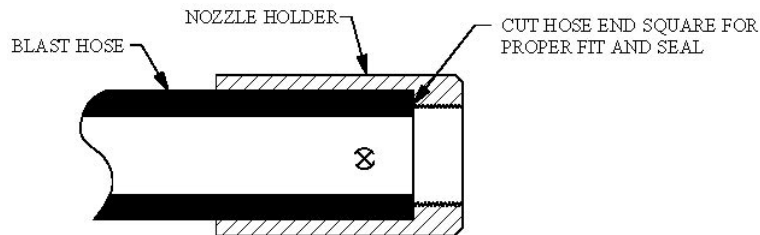

Figure 8.3 – Hose End Fit up
- 8.8. **Blast/Air Hose Coupling Gaskets:** All air hose, blast hose, and threaded couplings have gaskets that seal the connection. To reduce loss of air pressure and/or premature abrasive wear replace these gaskets when leaks are found. Inspect the couplings daily for leaks and wear. Replace gaskets when visible wear or leaks are found. When installing or replacing hose couplings cut the hose end square for secure fit (see Figure 8.3). To insure proper coupling connection always use fittings that are the same brand. See the drawings and part lists in Sections 9.1 and 9.2.